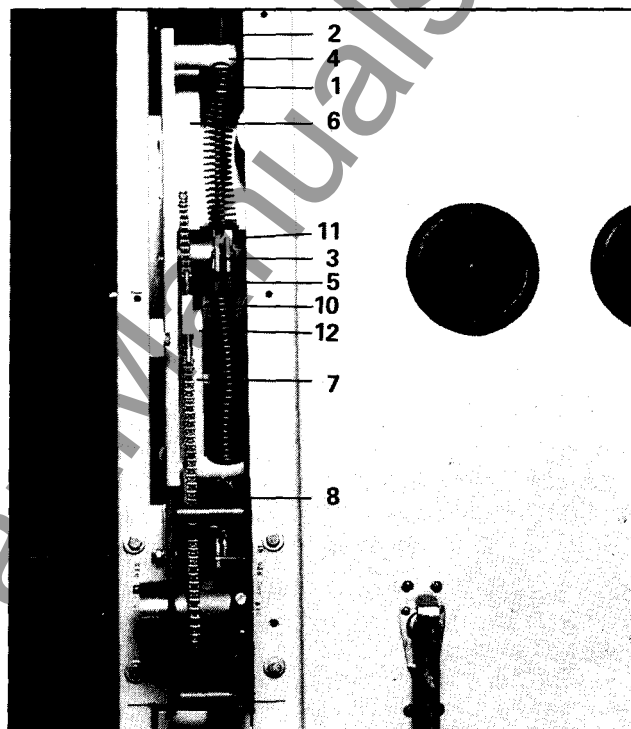
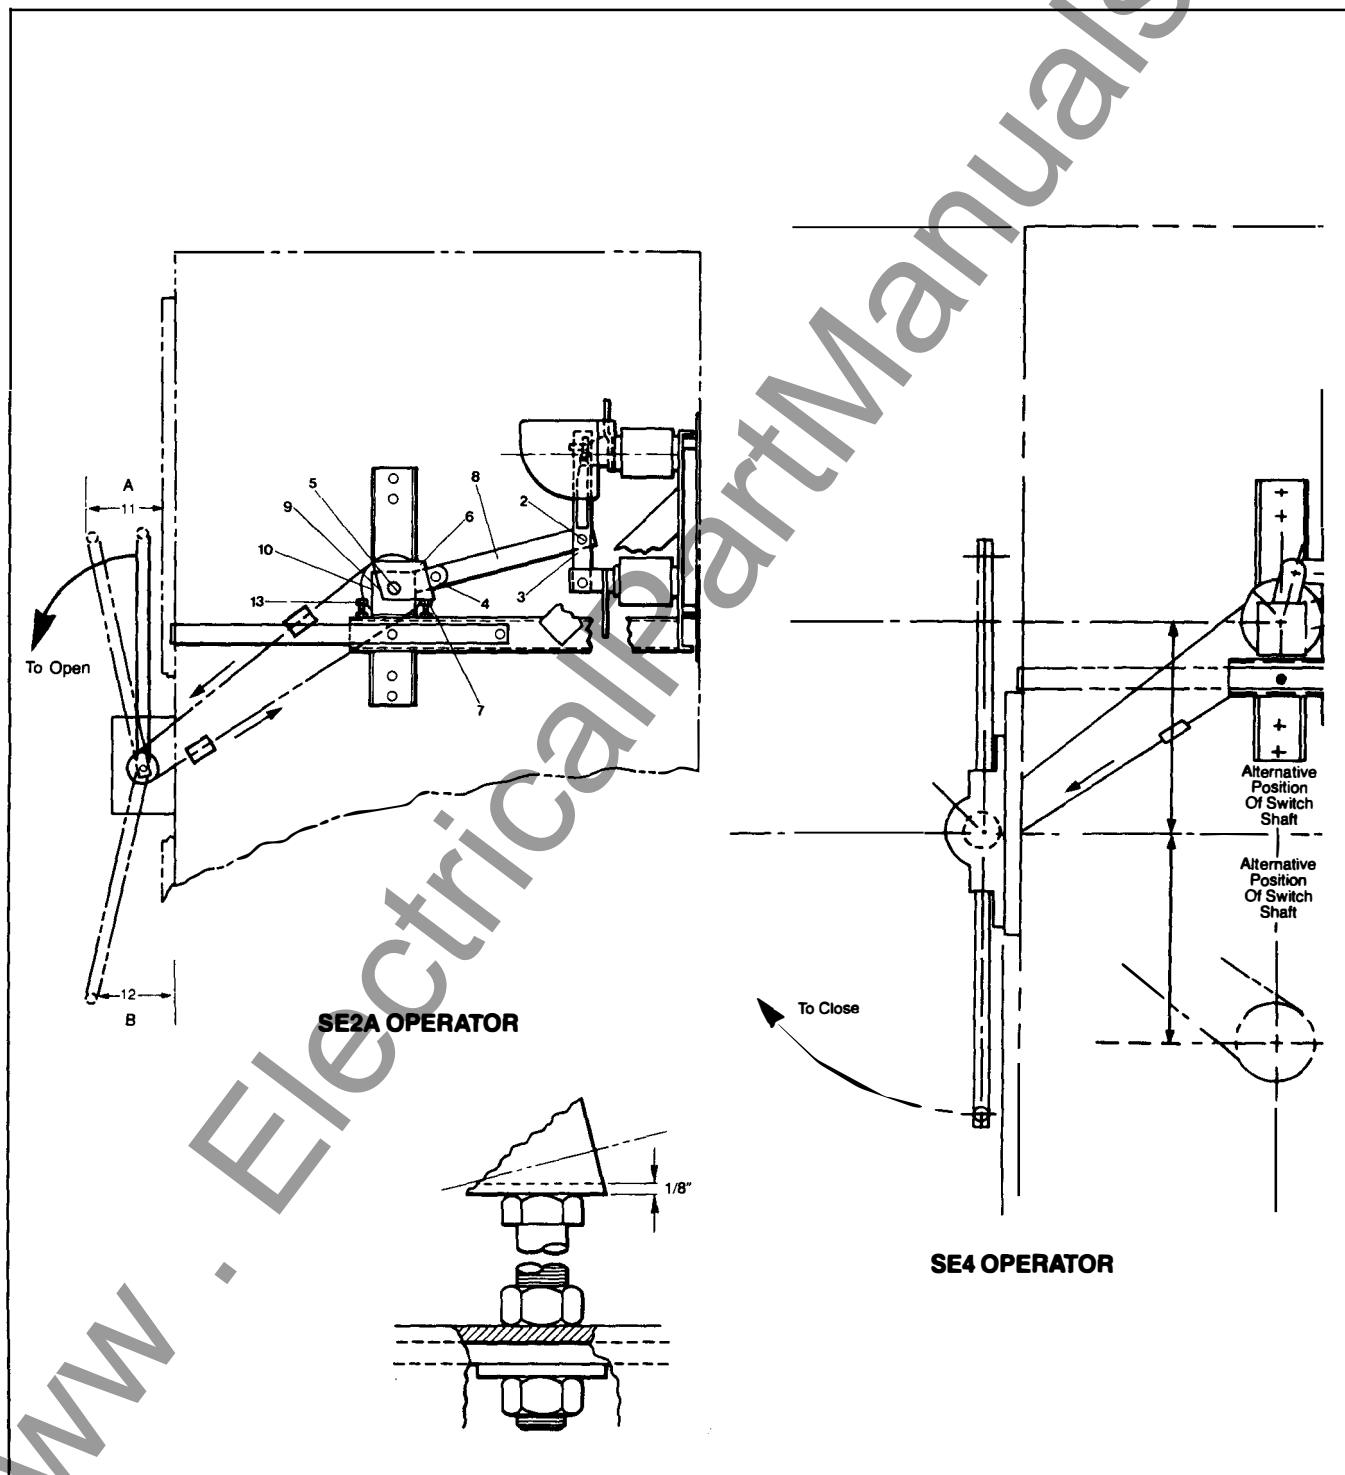

Figure 13. Operator Mechanism
Figure 18. Typical Load Interrupter Switch Assembly
The spring mechanism (Figure 13) consists of a pair of compression springs (1) guided inside by a pair of spring guide rods (2). One end of the rod is pinned at the actuator (3) and the other end is guided by a hole on a post (4). The actuator is mounted on the shaft assembly (5) and is free to rotate. The large chain sprocket (6) is mounted on the shaft assembly and is also free to rotate. The large chain sprocket assembly is connected thru chain (7) to the small chain sprocket assembly (8) and the front handle assembly.
6. Check stop bolt (Figure 18, items 7 and 13) position every 100 operations and adjust per instructions below.
7. Check mounting bolts for shaft bearing angle support (Figure 18, item 10) for tightness every 100 operations.
When replacing upper jaw contact or main blades the main blades must touch the stop bolt (7, Figure 18). When the hole (2) in the main switch blade (3), the hole (4) in the arm of the shaft assembly (5) and the center of the shaft assembly are held in a straight line, the stop bar (6) on the shaft assembly should be 1/8 inch (3 mm) above the closing stop bolt (7). The stop bolt height should be adjusted to achieve the correct height. Tighten the jam nuts to lock the bolt in position. This provides the proper over-toggle of the connecting link (8) in the closed position.
When the spring mechanism goes over center during opening and closing the position of the operating handle should be such that dimensions (A) and (B) in Figure 18 are approximately equal. This is adjusted by turn buckles on chain. (Figure 18) and Item 12 Fig. 13.